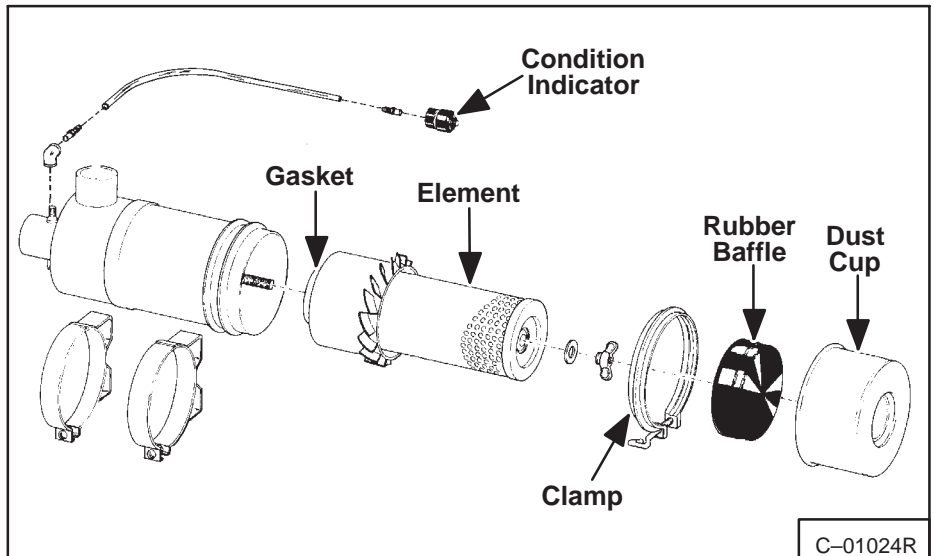

Fig. 1-18 Air Cleaner Assembly
1. Remove and clean dust cup every day (Fig. 1-18).